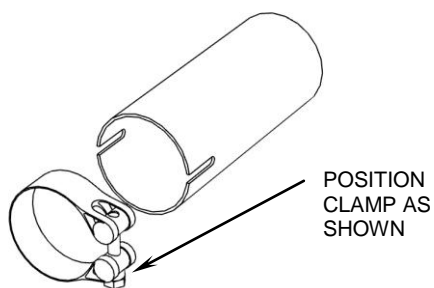

FIGURE 2
- Place the supplied clamp 27-61msc onto the lower muffler slip collar then slide the rear headpipe / muffler assembly onto the front headpipe and into the rear exhaust port. Bolt it to the rear cylinder using the stock hardware. See Figure 2 for clamp orientation.
- To install the front heatshield, first slide the rear portion of the heatshield over the muffler, continue to slowly slide it forward pushing the front of the shield gently into place between the frame and motor (Hint: Spread the hose clamps apart slightly to make it easier to slide them over the muffler assembly and head pipes). Make sure the muffler clamp don't interfere with the heatshields and are aligned as shown in Figure 2. Snug the heatshield clamps but **DO NOT TIGHTEN.**